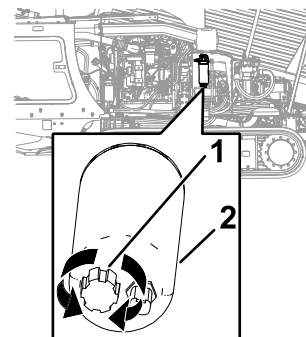

Figure 96
3. Align a drain pan under the primary fuel filter (Figure 96).
4. Rotate the drain valve at the bottom of the primary fuel filter 2 or 3 turns counterclockwise, and drain any water and sediment from the fuel filter (Figure 96).